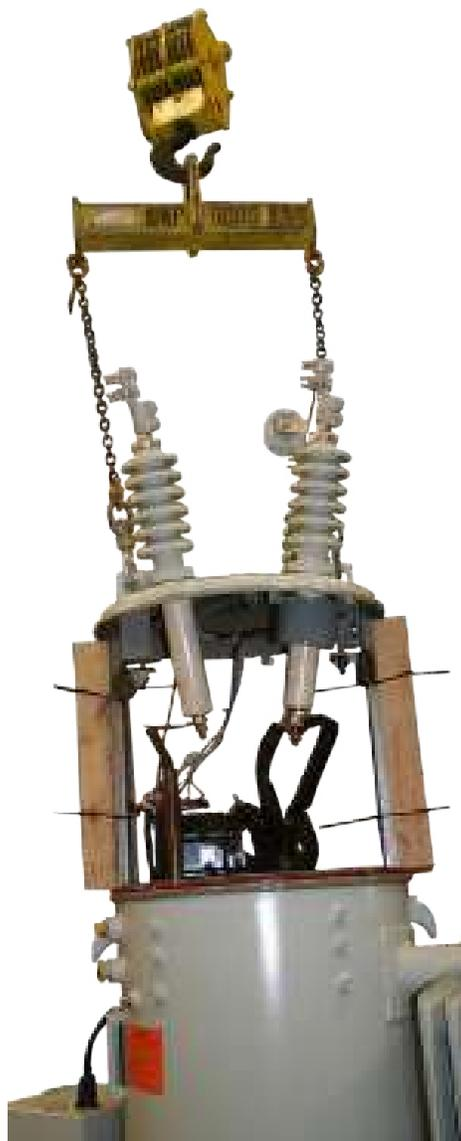

Figure 22. Untanking the voltage regulator
6. Attach a sling or hooks with a spreader bar to the lifting eyes and raise the cover, with the attached core-and-coil assembly, until the top of the coil is approximately one inch under the insulating fluid (see Figure 22).
Retank the regulator as directed below. Refer to Figure 22.